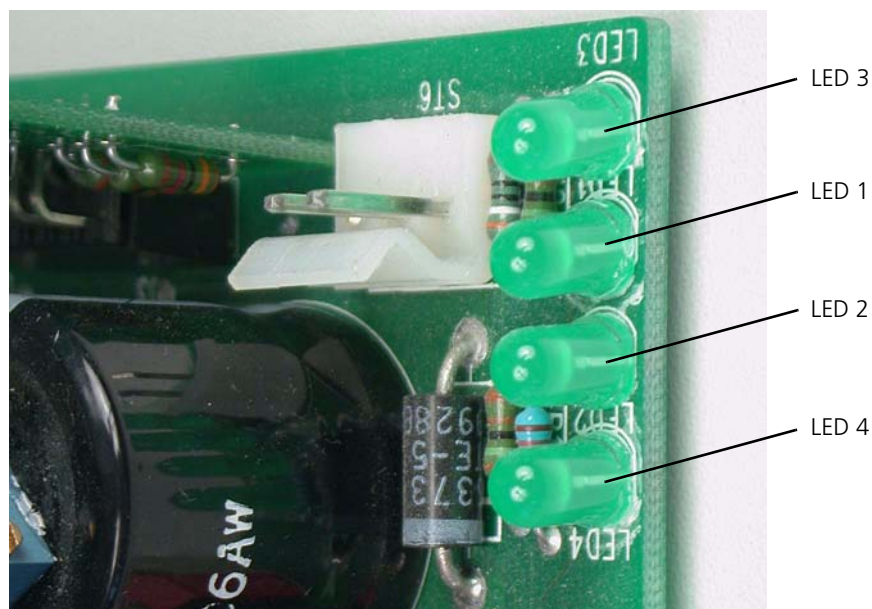
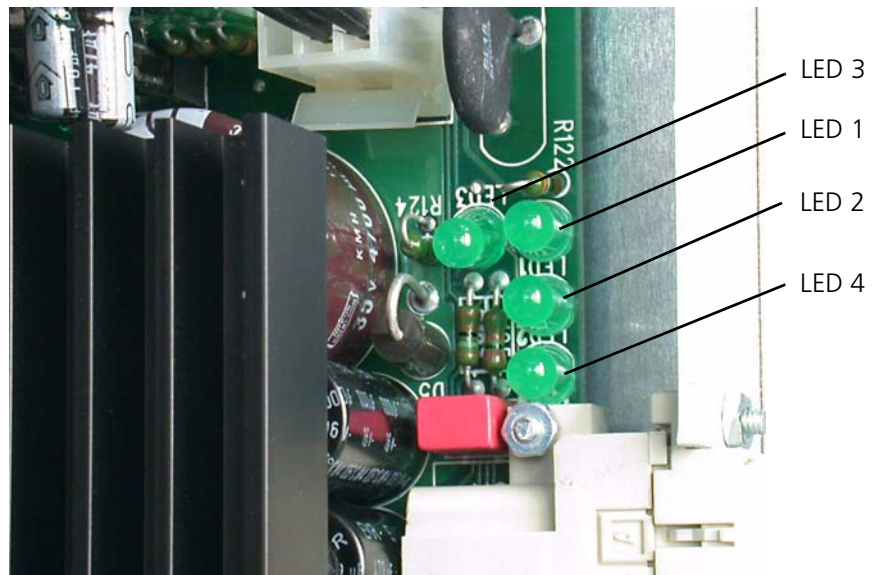

Figure 12-2. Troubleshooting LEDs on early power supply boards
Figure 12-3. Troubleshooting LEDs on later power supply boards
3. Identify the troubleshooting LEDs, as shown in Figure 12-2 or Figure 12-3, and check that all light up.